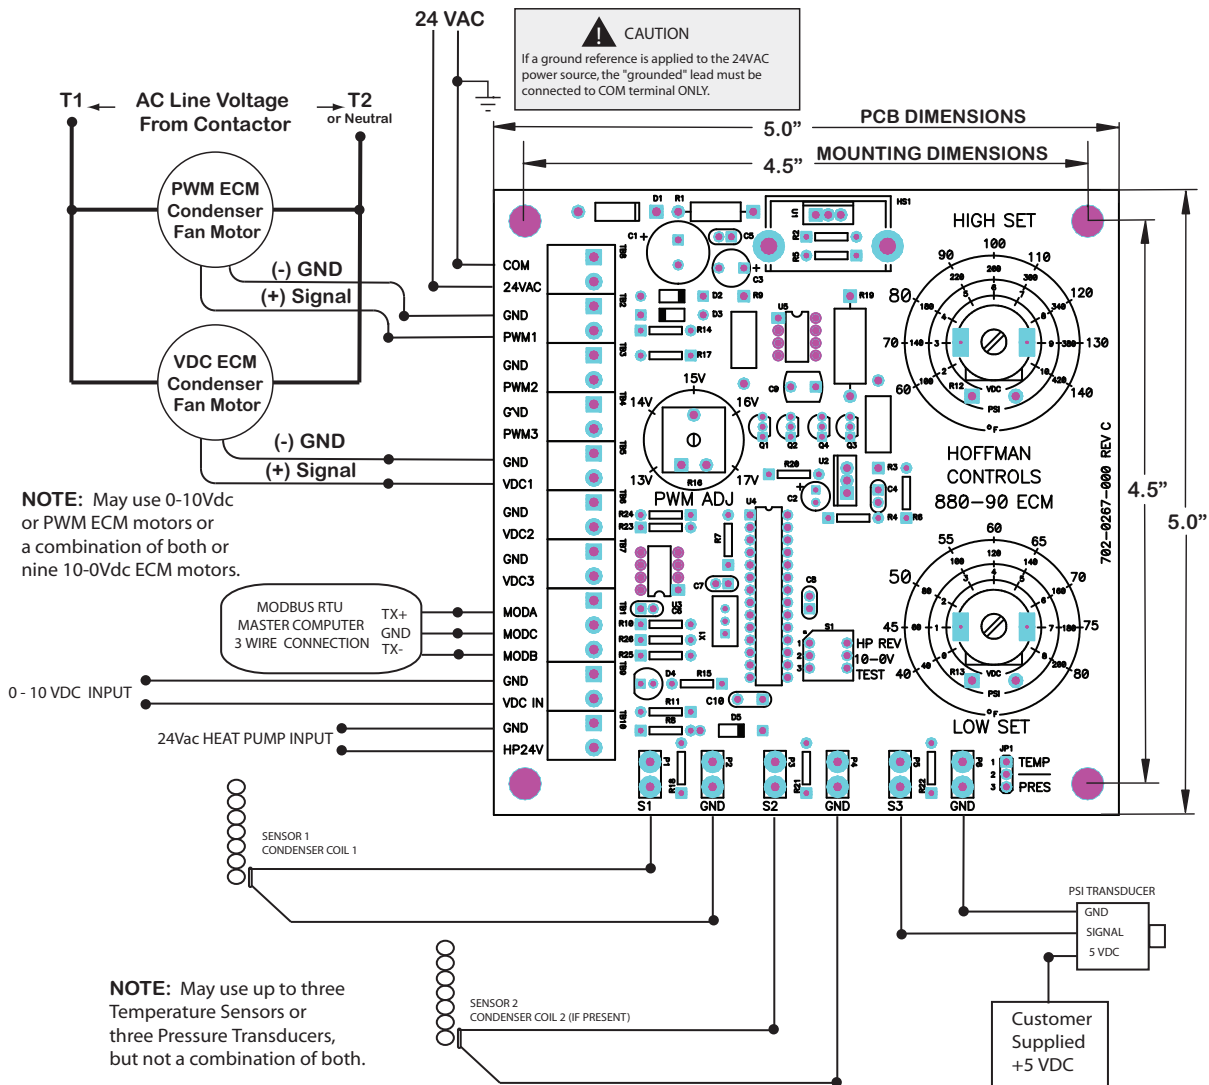

Figure 2 - Wiring Diagram for the 880-90 Control
- Dimensions and mounting hole patterns for the control are included in Figure 2, 880-90 Wiring Diagram.
- Make the wiring connections as shown in Figure 2, 880-90 Wiring Diagram.